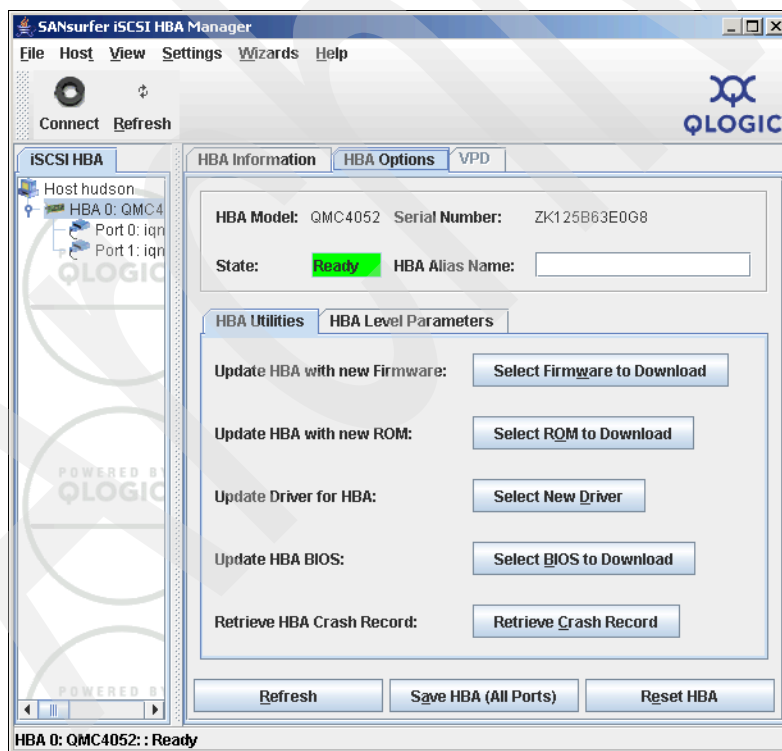

Figure 21-25 SANsurfer - HBA utilities
3. Start SANsurfer. Select the HBA to be updated from the iSCSI HBA listing and click the HBA options tab, as shown in Figure 21-25.
8. The window shown in Figure 21-25 on page 499 reappears. This time, click **Select Firmware to Download** from HBA Utilities.